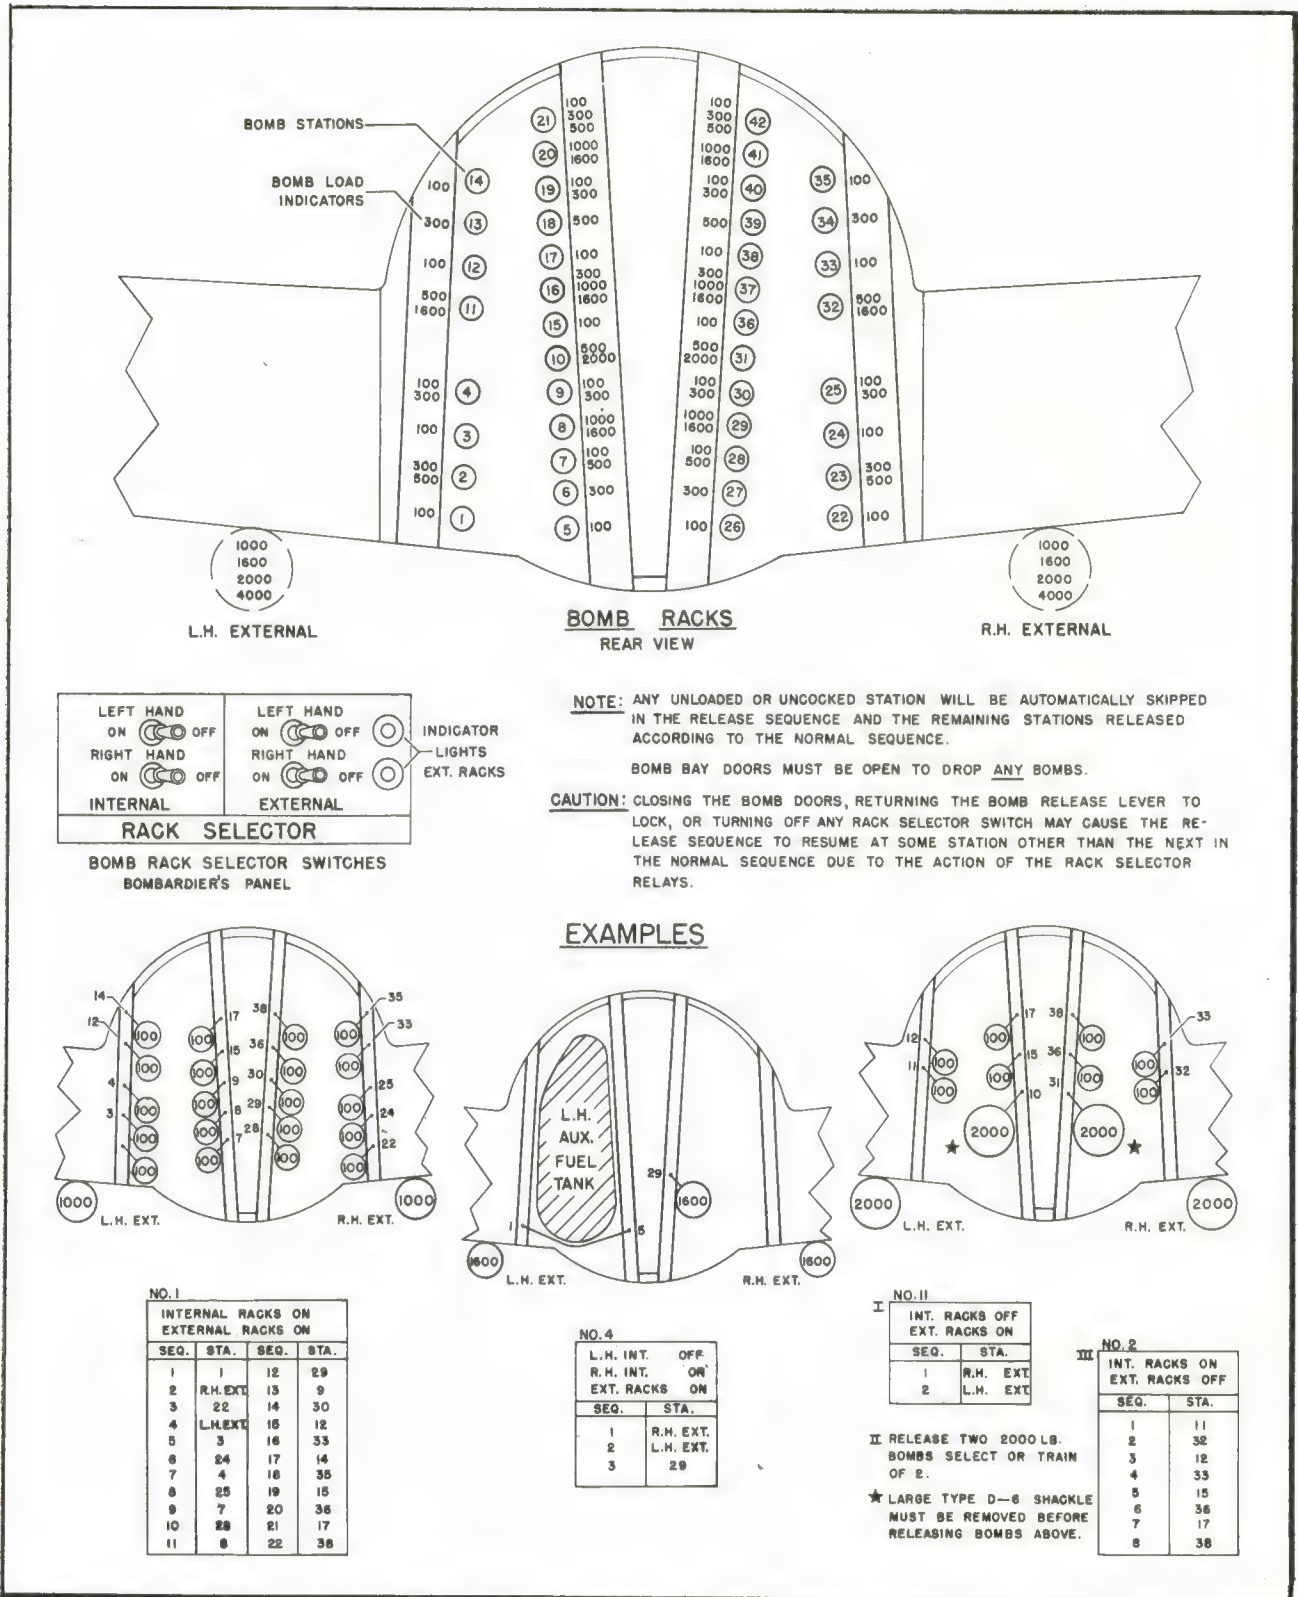

Figure 40 - Bomb Release Sequence Diagram (Sheet 1)
(1) In the "LOCK" position the bomb racks are locked against any release of bombs except by means of the emergency release handles.
(2) In the "SELECTIVE" position the bomb racks are prepared for electrical release by manual operation of the release switch, or by automatic operation through the bomb sight.
(3) The "SALVO" position, when the bomb doors are open, mechanically releases all bombs simultaneously and unarmed.
c. The interval release control unit is mounted at the bottom of the bombardier's control panel and may be set to provide either "SELECT" or "TRAIN" release. On airplanes serial Nos. 42-5050 and on, four switches on the bombardier's control panel permit selection of any external or internal rack for electrical release. Two indicator lamps beside the rack selector switches correspond to the external racks. Two additional rack selector switches in the bomb bay permit elimination of either right or left bomb bay from the release circuit if bomb bay fuel tanks are carried. Bomb release sequence is given in figure 40. Any rack or combination of racks may be eliminated from the release sequence by turning off